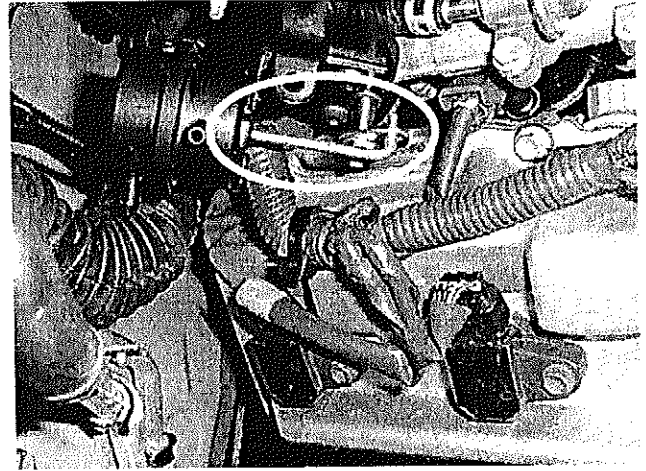

Figure 27
11. Check the passenger's-side wire loom clearance to the bypass actuator assembly, linkage and rod. The wire loom should clear all bypass actuator components (Figure 27). If the wire loom is too close to any bypass actuator components, adjust the loom by removing and repositioning the cable ties. Additional cable ties may be necessary to secure the wire loom away from the bypass actuator assembly.